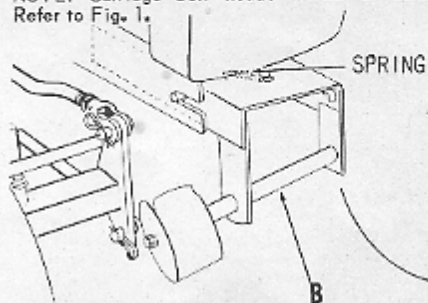

FIG. 2
2. Assemble idler shaft assembly (B) to front of tractor frame and hook spring into hole in rear of front axle bracket and hole in front of idler frame. Refer to Fig. 2.